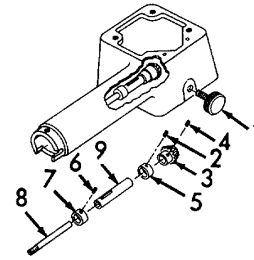

Figure 6-97. Hook Shaft Assembly, Removal.
- (5) Refer to Figure 6-97 Loosen thumbscrew (1) and tilt head to rear.
- (6) Loosen two setscrews (2) on hook shaft gear (3).
- (7) Loosen two setscrews (4) on rear hook shaft collar (5) and two setscrews (6) on front hook shaft collar (7).
- (8) Pull forward on hook shaft (8) and out of lower arm.
- (9) Remove bushing (9).